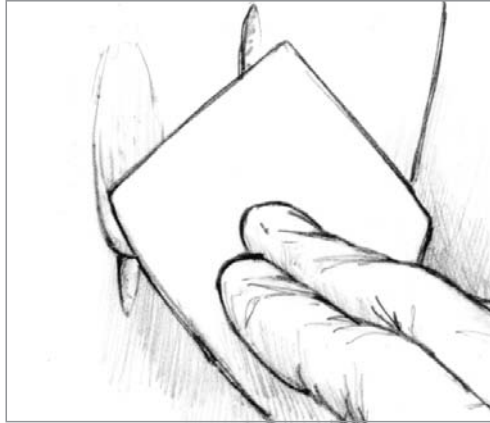

Figure 4-3 Fill the cavities with epoxy thickened with 406 Colloidal Silica filler.
3. Fill the cavities with epoxy thickened to a non-sagging consistency with 406 Colloidal Silica filler (*Figure 4-3*). Avoid overfilling the cavities because 406 thickened epoxy is difficult to sand. On larger cavities where the epoxy may generate exotherm (heat buildup), add more filler to the mix to increase viscosity. The extra filler helps to resist sagging at elevated temperatures caused by exotherm. Allow the epoxy to cure.